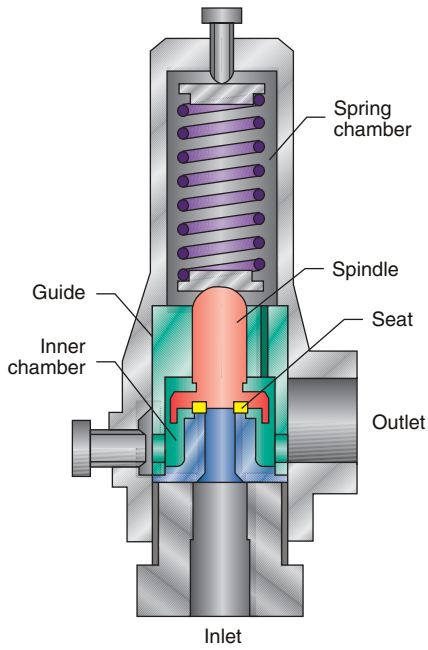

Figure 1
1. System pressure is applied at the inlet to the seat area and exerts a force on the spindle. This upward force is counteracted by the downward force of the spring (see Figure 1, page 47).